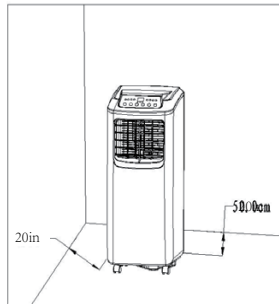

Figure 7
1). Move the machine with the heat exhaust hose assembly installed before the window and keep the unit at least 20in away from the walls or other objects. (As shown in Figure 7).